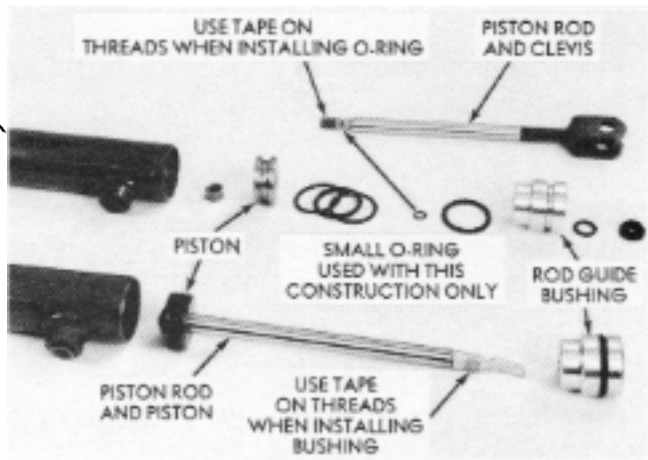
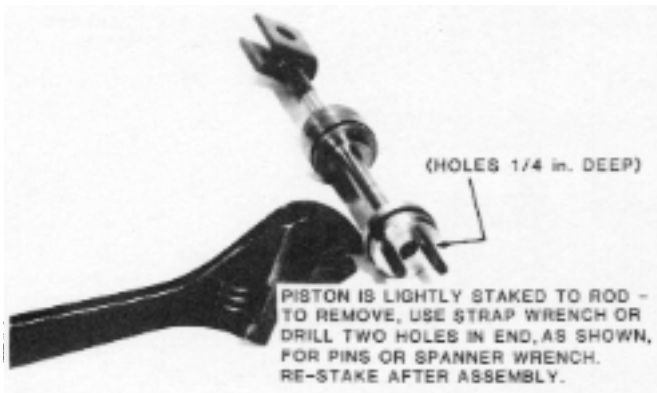

FIG. 24. Piston, Rod & Bushing Seals
FIG. 25. Piston Removal
4. Cylinders serviced with 101699 Kit are shown in Fig. 24. Cylinders serviced with 109088 Kit are shown in Fig. 25 and 26. Remove and discard all O-rings and seals. Straighten out a paper clip and form a hook in one end to remove O-rings from grooves.
6. Install the new O-rings, gaskets and seals contained in the service kit. One gasket should be on each side of the piston O-ring (Fig. 24 cylinders). Use masking tape as indicated in Fig. 24 & 26 to protect the O-rings from damage during assembly.